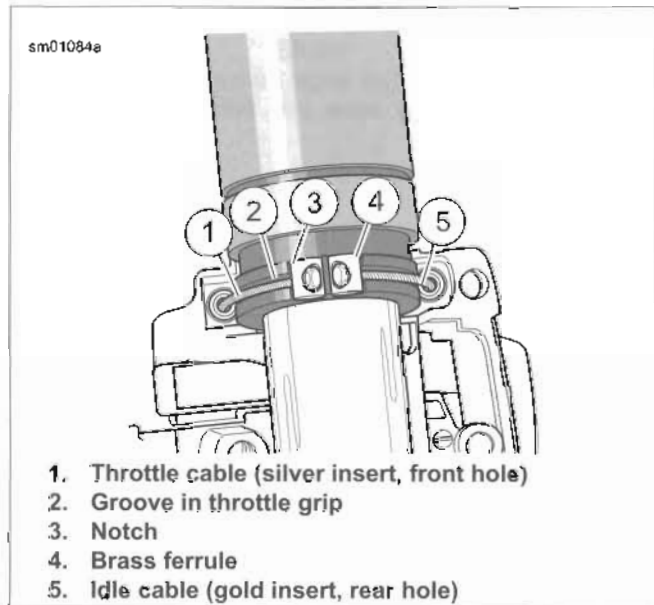

Figure 2-92. Throttle Cable Attachment
5. See Figure 2-92. Pull the cables from the housing by placing a drop of oil on the retaining ring that holds the cable in the housing, then firmly pull the bent tubing portion of the cable out of the housing using a rocking motion.
2. See Figure 2-92. Attach the control cable assemblies to the lower housing.
- a. Push the silver insert of the throttle cable (1) housing into the hole in front of the tension adjuster screw.
- b. Push the gold diameter insert of the idle cable (5) housing into the hole at the rear of the tension adjuster screw.